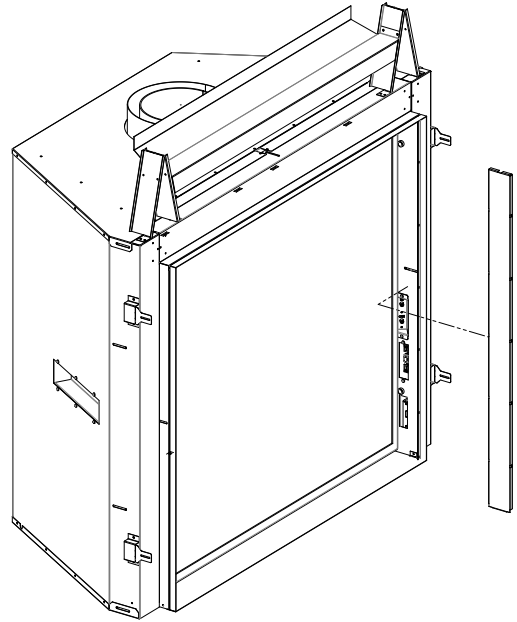

Figure 16: Side Panel Removal
3. A side cover can be found on the inner right side of the unit. It is held in place using two magnets. Gently pull the side panel out and away from the unit (see Figure 16).
- Pressure taps for the inlet (IN) and the manifold (OUT) \*see page 49\*